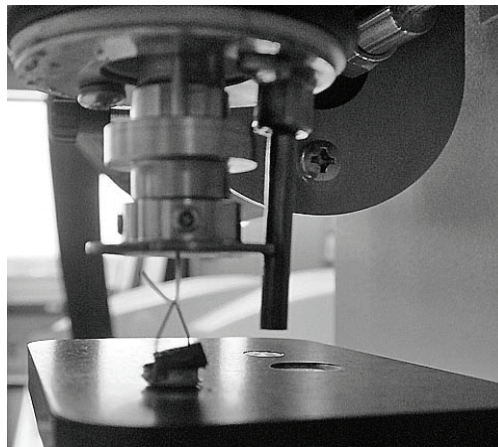

Figure 61 Sample pan and hangdown wire refitted
17. Refit the sample pan and hangdown wire (Figure 61).